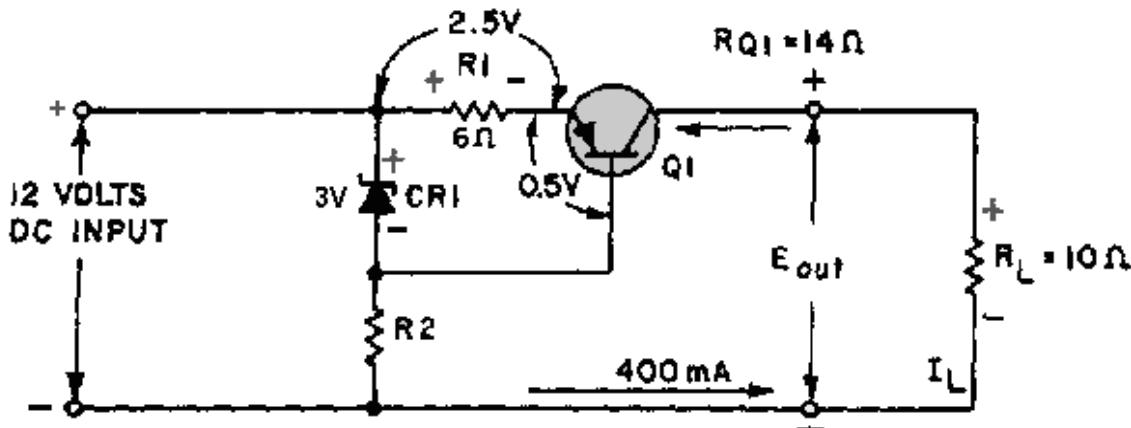

Figure 4-43.—Current regulator (with a decrease in R_L).
Since you are familiar with the basic current regulating circuitry, let's examine in detail how the various components work to maintain the constant 400-milliampere output. Refer to the schematic shown in figure 4-43. Remember a decrease in load resistance causes a corresponding increase in current flow. In the example shown, the load resistance R_L has dropped from 15 ohms to 10 ohms. This results in a larger voltage drop across R_1 because of the increased current flow. The voltage drop has increased from 2.4 volts to 2.5 volts. Of course, the voltage drop across CR_1 remains constant at 9 volts due to its regulating ability. Because of the increased voltage drop across R_1 , the forward bias on Q_1 is now 0.5 volt. Since the forward bias of Q_1 has decreased, the resistance of the transistor increases from 9 ohms to 14 ohms. Notice that the 5 ohm increase in resistance across the transistor corresponds to the 5 ohm decrease in the load resistance. Thus, the total resistance around the outside loop of the circuit remains constant. Since the circuit is a current regulator, you know that output voltages will vary as the regulator maintains a constant current output. In the figure, the voltage output is reduced to 4 volts, which is computed by multiplying current (I) times resistance (R) ($400 \text{ mA} \times 10 \text{ ohms} = 4 \text{ volts}$).
Q37. In figure 4-43 any decrease in the base-emitter forward bias across Q_1 results in an increase/a decrease (which one) in the resistance of the transistor.